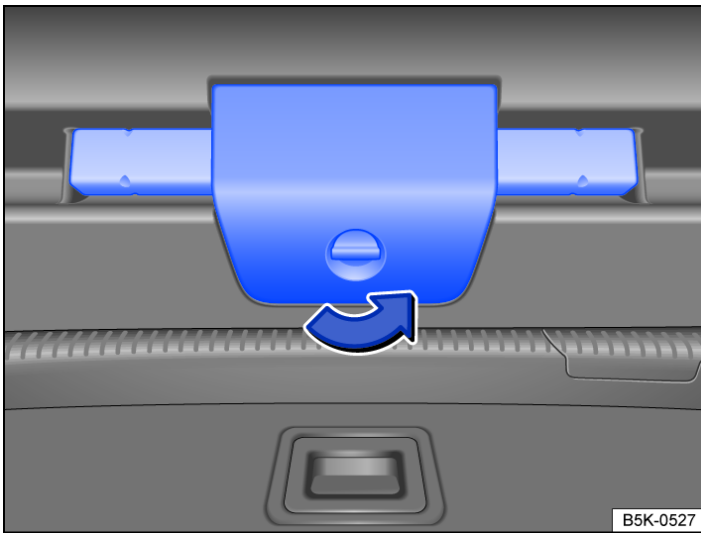

Fig. 1 In the trunk lid: Holder for the warning triangle.
1. With the trunk lid open, turn the holder lock → *fig. 1* 90° counterclockwise in the direction of the arrow.